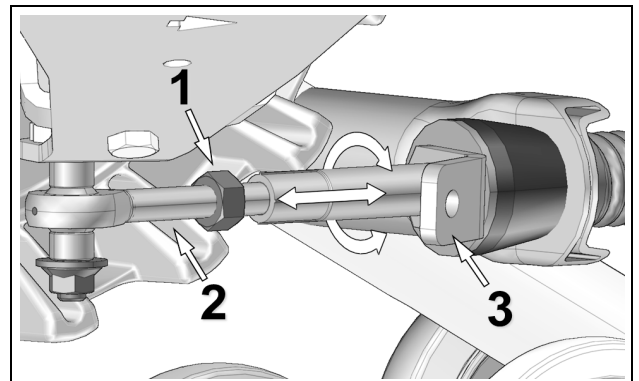

Figure 5
- Loosen jam nut (1). Adjust length of rod end (2) by rotating the steering limiter support plate on (3) the stabilizing arm. Use a 30 mm wrench to rotate support plate and obtain 254 mm above the ground. Refer to Figure 5.